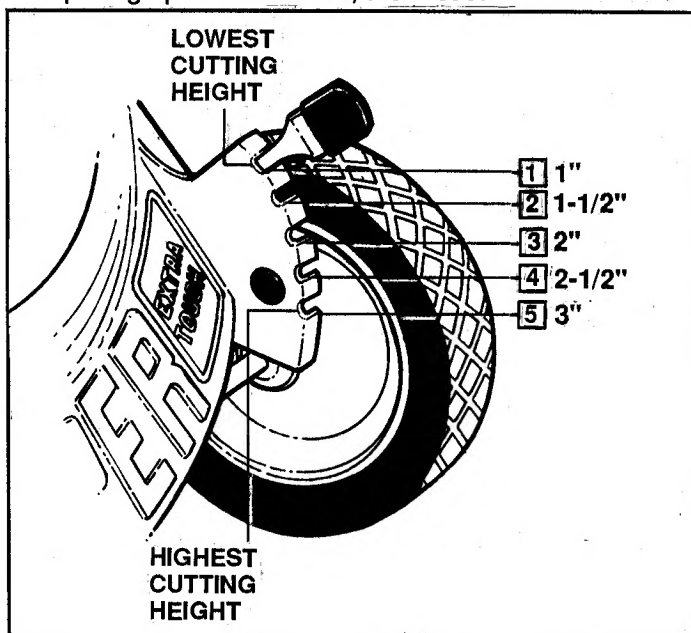

FIGURE 1.3
Always stop the engine and wait until the mower blade comes to a complete halt before readjusting the cutting height! To readjust, move the height adjusting latch on each wheel outward and slide each, one notch at a time, to the position desired. Positioning the latches in the highest notch sets the mower at the lowest cutting height while the lowest notches sets it in the highest cutting position. Refer to Figure 1.3 for the approximate cutting height afforded by each of the five latch positions. For best results, set both latches on one side first, then go to the other side and set these latches into corresponding notches. Before resetting the rear latches into lower notches, lift the weight of mower off the rear wheels first by pulling up on the handle, then reset.
- A. MOWING/VACUUMING HINTS:** The cutting deck should be level under all conditions. As a general rule, never cut more than 1/3 off the height of the grass. If, for example, the grass has grown 4 inches tall, set the mower height latches in the lowest position which establishes the cutting height at approximately 3". (Refer to Figure 1.3), thereby cutting about 1" off the grass and staying well within the 1/3 off limit. If you want the grass shorter, wait a few days, then recut to the lower height. If cut too short, the grass will expend more energy for development of new leaf structures and less for a healthy root system and will be more subject to burning. On the other hand, if allowed to grow too long, the lower portion will be shaded and, as a result, will discolor. In dry periods, allow the grass to grow longer than you normally would.